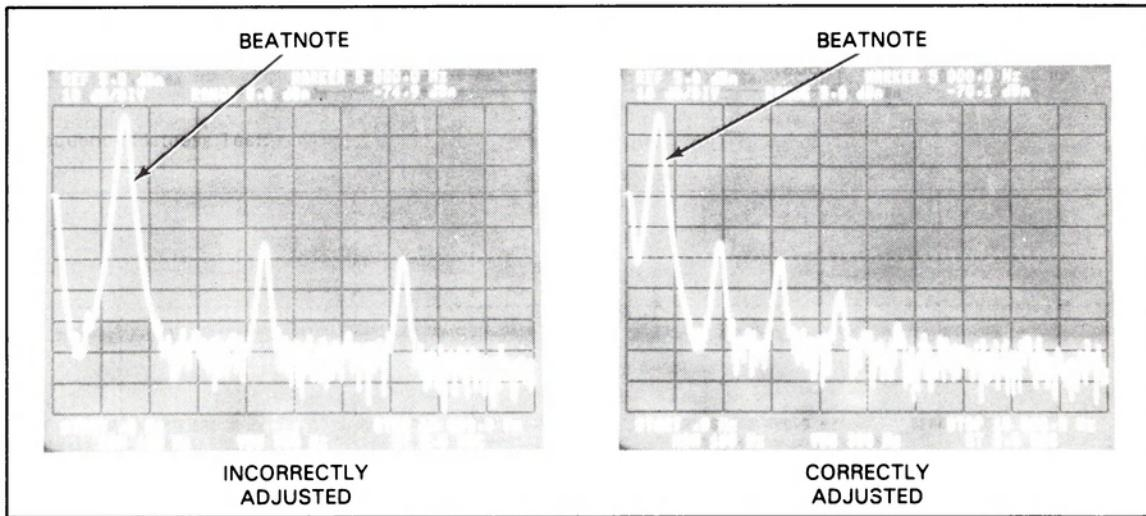

Figure 7-30. Beatnote Adjustment
r. Adjust the -hp- 8640B frequency until the beatnote displayed on the -hp- 3585A (largest signal) is less than 1 kHz. (See Figure 7-30)